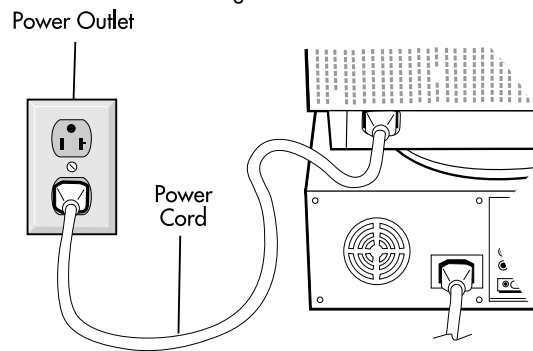

Figure C.1
5. Connect one end of the power cord to the MultiSync FE700 monitor and the other end to the power outlet (**Figure C.1**).